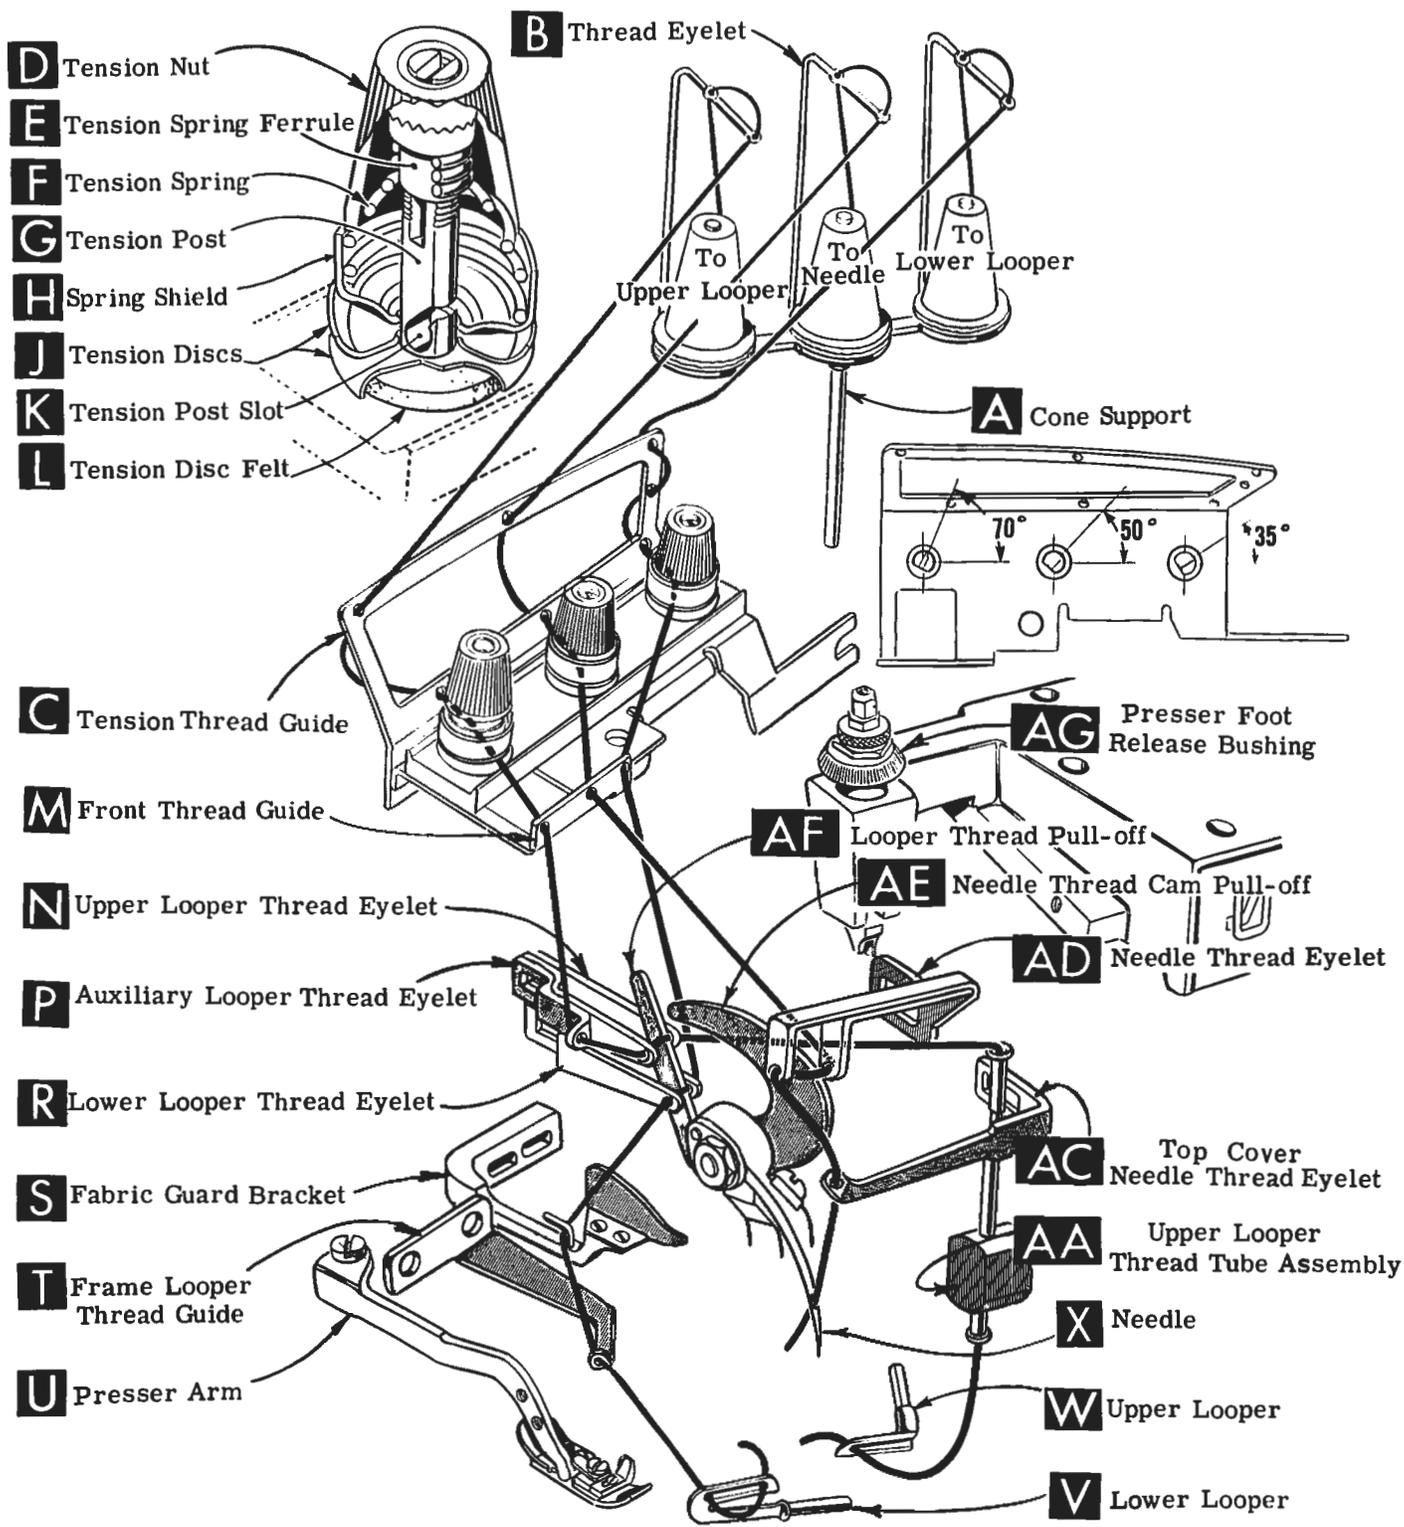
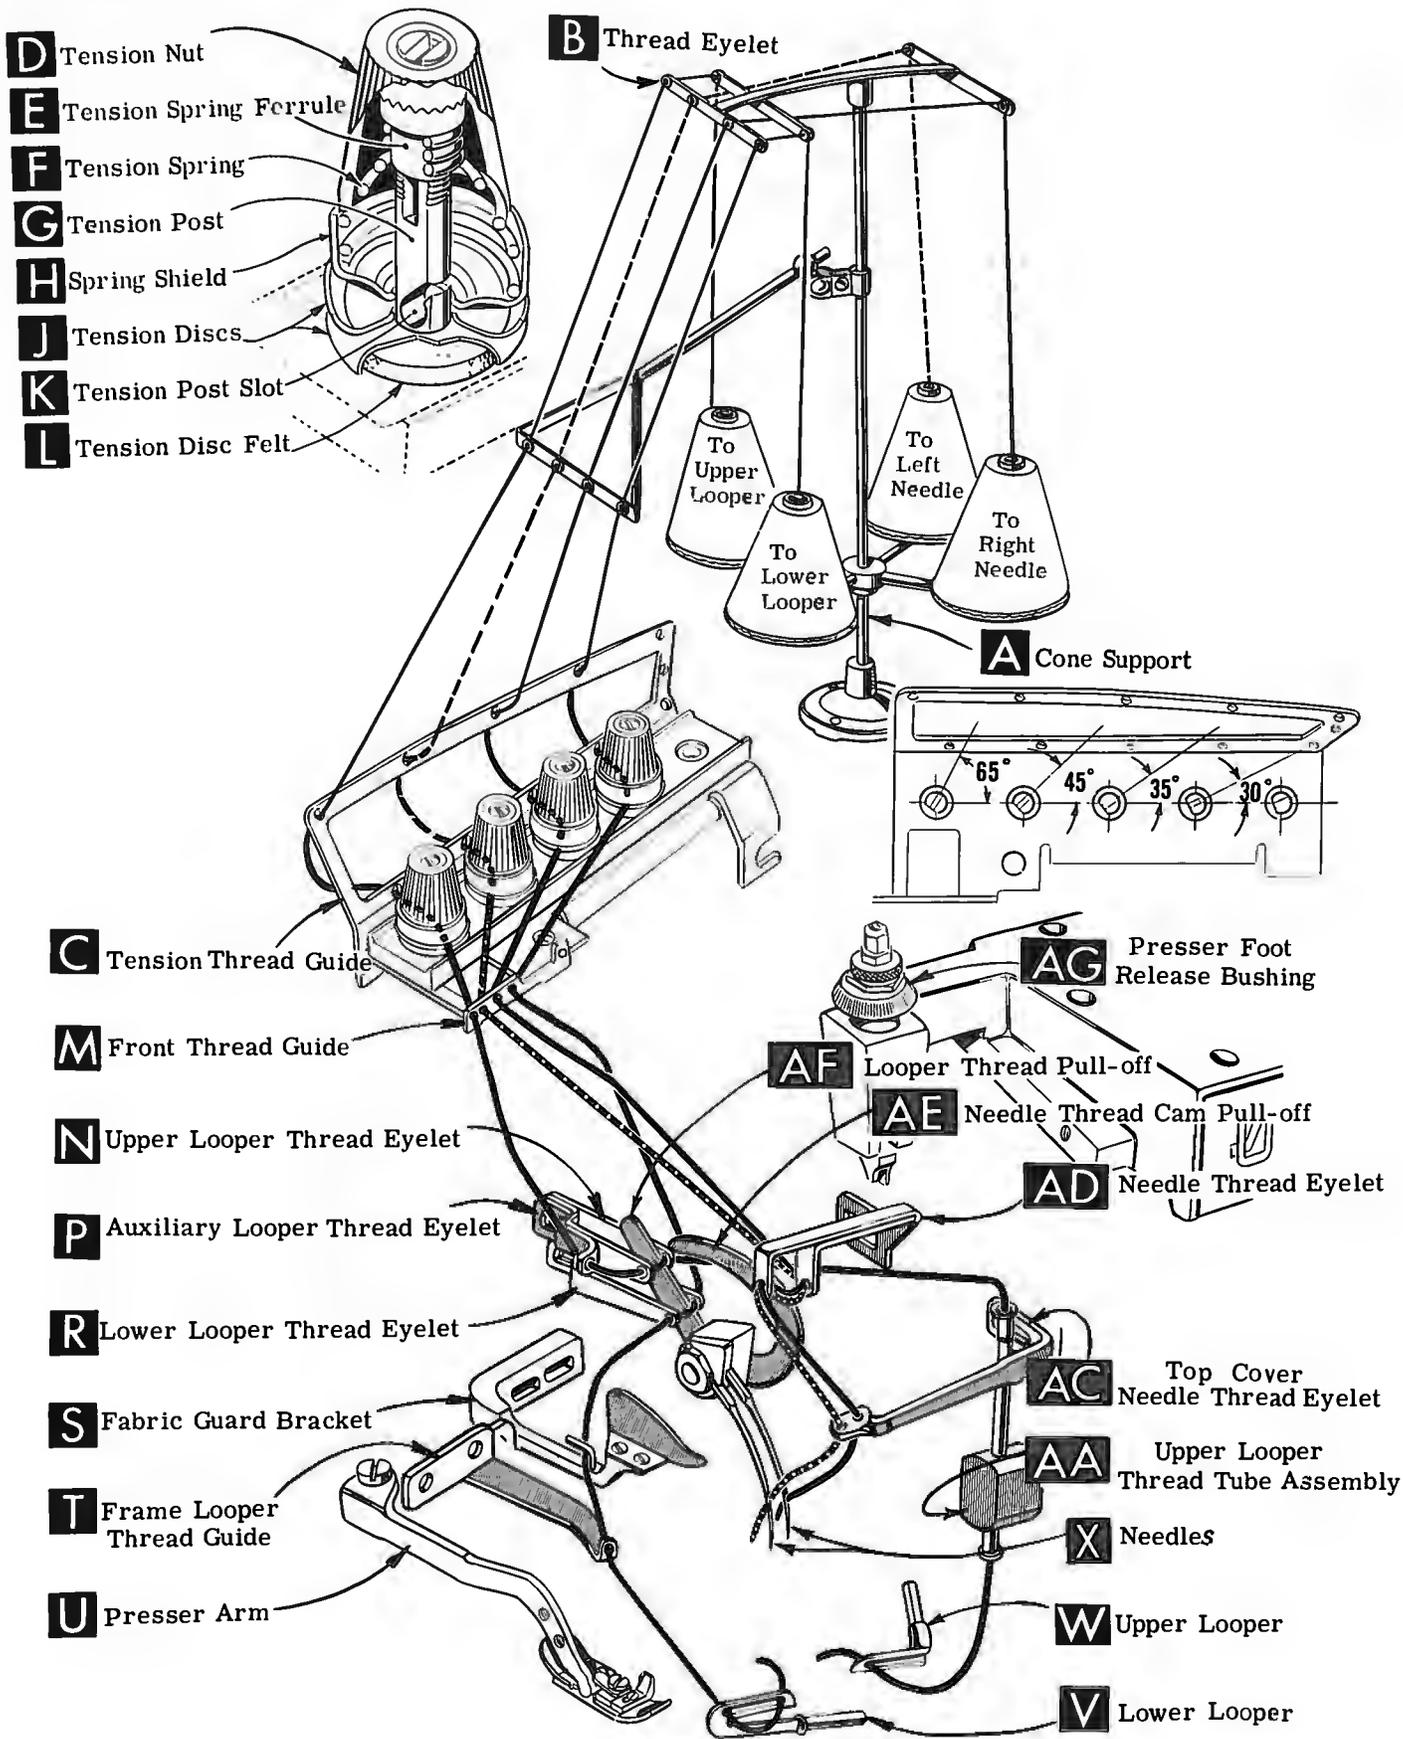

Fig. 1
Fig. 1A
Release pressure on presser foot by turning presser foot release bushing (AG, Fig. 1 and 1A) and swing presser arm (U) out of position. Turn handwheel in operating direction until needle is at its lowest point of travel. Using hexagonal socket wrench No. 21388 AU, furnished with machine, loosen needle clamp nut about 1/4 turn. Again turn handwheel until needle is at high position; withdraw needle.
After thread comes from cones on cone support (A, Fig. 1), it is brought up through back hole of thread eyelet (B), then down through the front hole of thread eyelet. Next it is threaded through the upper holes of tension thread guide (C) from front to back and then through the lower holes from back to front. It should be noted that the lower looper thread is threaded through the tension thread guide (C), first through the upper hole back to front, second through the middle hole front to back and third through the lower hole back to front. All threads then continue between the tension discs (J), through tension post slot (K) in tension post (G) and on through front thread guide (M).
After thread comes from cones on cone support (A, Fig. 1A), the needle threads are threaded through the back bar of the thread eyelet (B), under the middle bar and through the center holes of the front bar. The looper threads come from the cones, through holes of the middle bar from back to front and then through the two outside holes of the front bar. Next it is threaded through the upper holes of tension thread guide (C) front to back and then through the lower holes from back to front. The threads continue between the tension discs (J), through tension post slot (K) in tension post (G) and on through front thread guide (M).
NOTE: Refer to Fig. 1 for threading Styles 39500 FS, FT, FU, GT, JP and MM, or refer to Fig. 1A for threading Styles 39500 GD and GL.
Only parts involved in threading are shown in threading diagrams (Fig. 1 and 1A). Parts are placed in their relative positions for clarity.
The threading in Fig. 1 and Fig. 1A are the same, the only difference will be the threading of two needle threads in Fig. 1A as compared to one needle thread in Fig. 1. The additional needle in Fig. 1A moves the lower looper thread tension post to the right.
Be sure the threads, as they come from the tension thread guide (C), are between the tension discs (J) and in tension post slot (K) in tension post (G). The tension posts should be positioned so the tension post slot will be at the approximate angle for the different threads as indicated in Fig. 1 and 1A.
Double end of thread and lead it through both eyes of lower looper thread eyelet (R, Fig. 1 or 1A) from right to left. NOTE: Thread must pass in front of looper thread pull-off (AF). Lead thread behind fabric guard (S) and through hole of frame looper thread guide (T). Turn handwheel in operating direction until heel of lower looper (V) is all the way to the left; then thread through both eyes from left to right. Left eye of lower looper can be threaded easily if tweezers are in left hand.
Turn handwheel in operating direction until needle or needles (X, Fig. 1 or 1A) is at its highest position. Insert needle thread or threads from right to left, through both eyes of needle thread eyelet (AD), under neck of top cover casting; and then down through hole or holes in top cover needle thread eyelet (AC). Thread needle from front.
The amount of tension on needle and looper threads is regulated by tension nuts (D, Fig. 1 or 1A). Tension on threads should be only enough to secure proper stitch formation.